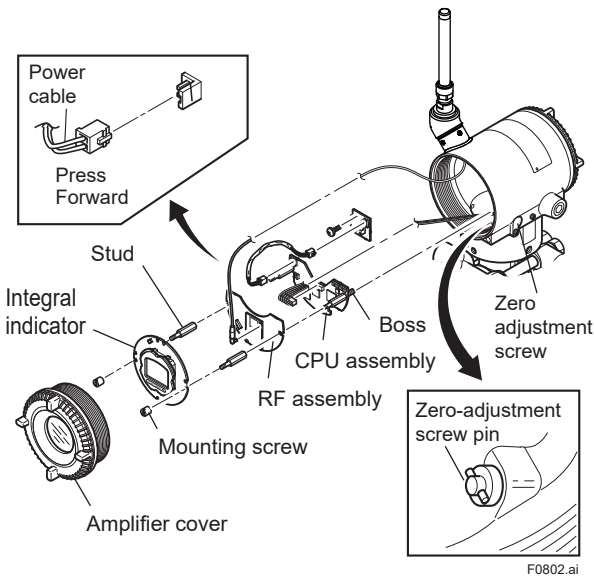

Figure 8.2 Removing and Attaching Integral indicator, RF assembly and CPU Assembly
This subsection describes the procedure for replacing an integral indicator. (See figure 8.2)
This subsection describes how to replace the RF assembly (see Figure 8.2).
This subsection describes how to replace the CPU assembly (see Figure 8.2).
- 2) Turn the zero-adjustment screw to the position as shown in Figure 8.2.
When doing this, lightly press the side of the CPU assembly connector and pull the cable connector to disengage (see the upper left of Figure 8.2).